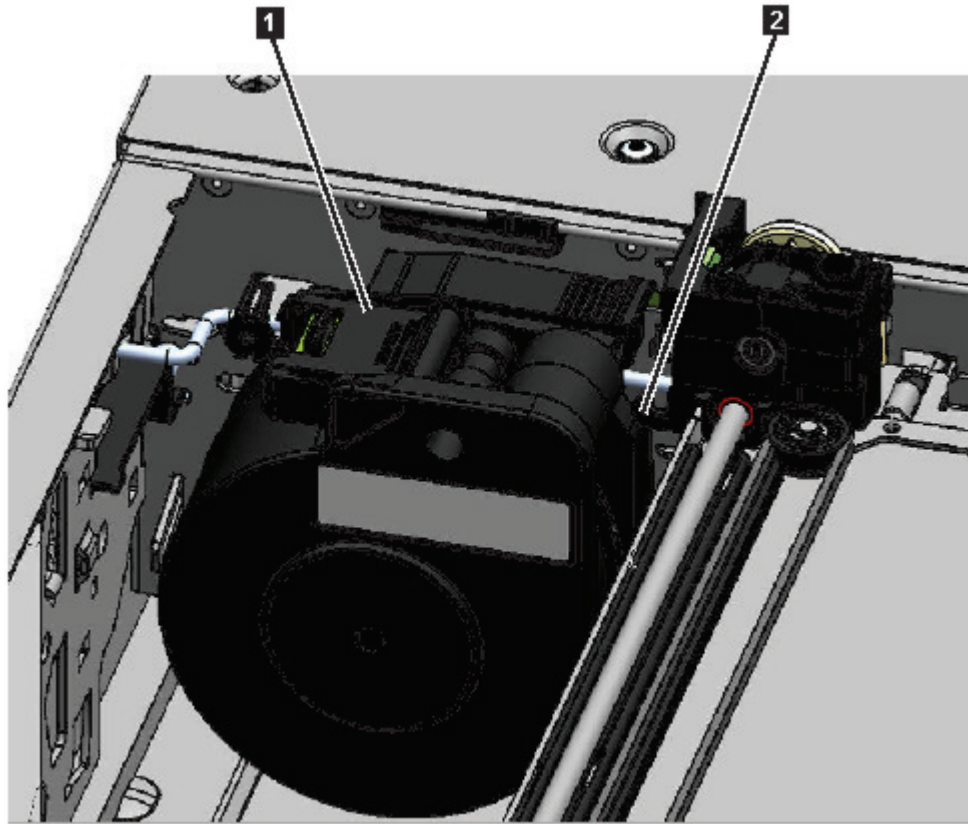

Figure 77. Spooling cable in park position
Note: Note where the end of the spooling cable pivots in the accessor. It is important to know when you attach the new spooling cable to the accessor. See **2** in Figure 77 on page 129.
9. Place the spooling connector (**1** in Figure 77 on page 129) to the park position.